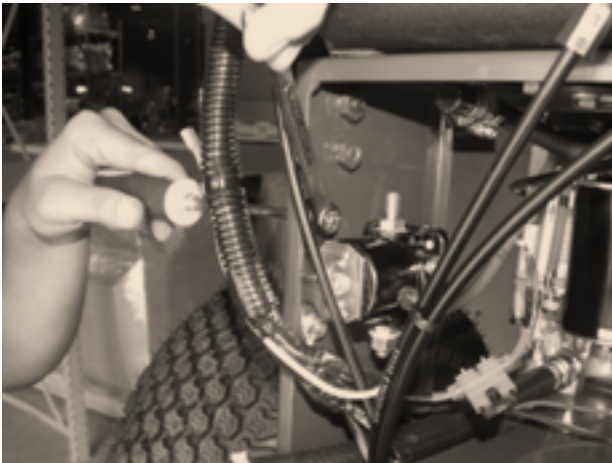

Figure 35
4. Using a Phillips screwdriver and 7/16 wrench, remove solenoid **Figure 35**.